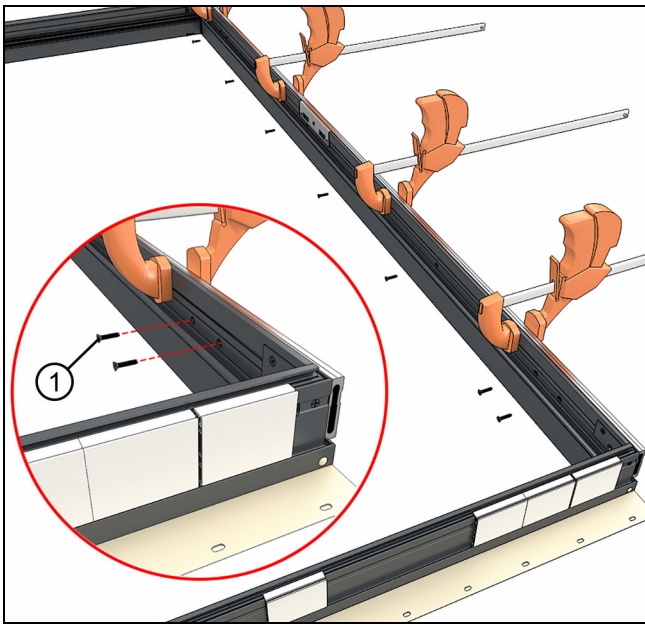

Figure 42
3. Fasten the mull pin to the door using the installation holes. Fasten with #8 x 7/16" self drilling screws. See Figure 42.